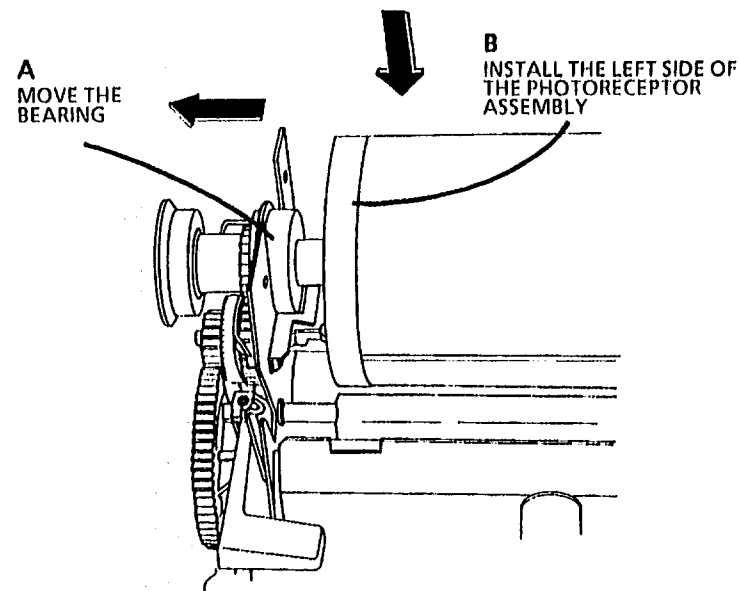

Figure 2. Reinstalling the Photoreceptor Drum Assembly
1. (Figure 2): Reinstall the photoreceptor assembly.